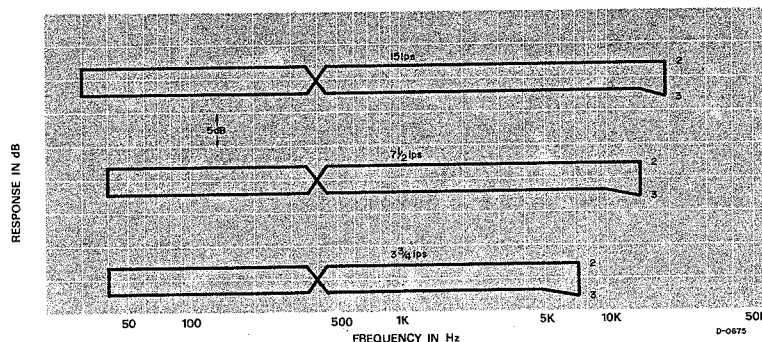

Fig. 7-9 Frequency Response Limits -Record-
2. Apply a signal swept from 50 Hz to 15 kHz to the unit while recording on a record test tape. Refer to Fig. 7-9.